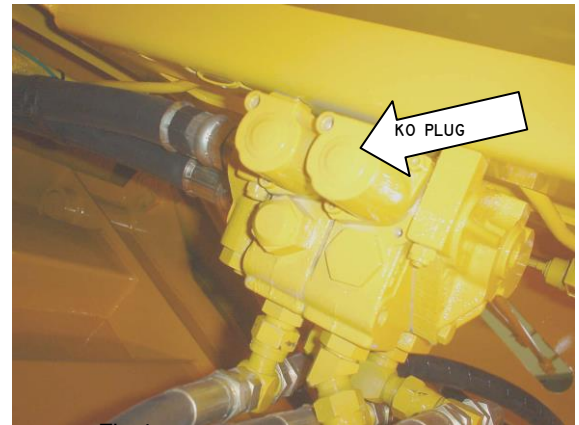

Fig 4
- ❑ 1-Remove the small, rubbery hole plug from the end of the K-O positioner's bonnet (at the end face of it)...the "adjuster" is behind it <FIG. 4>